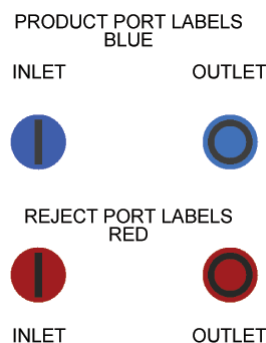

Figure 3-2 VNX Port Labels
Product and reject port locations are identified with color coded labels affixed near the appropriate endblock connection points. Product port inlets (I) and outlets (O) are identified with BLUE labels, and reject port inlets (I) and outlets (O) are identified with RED labels. Figure 3-2 (below) shows what the labels look like.